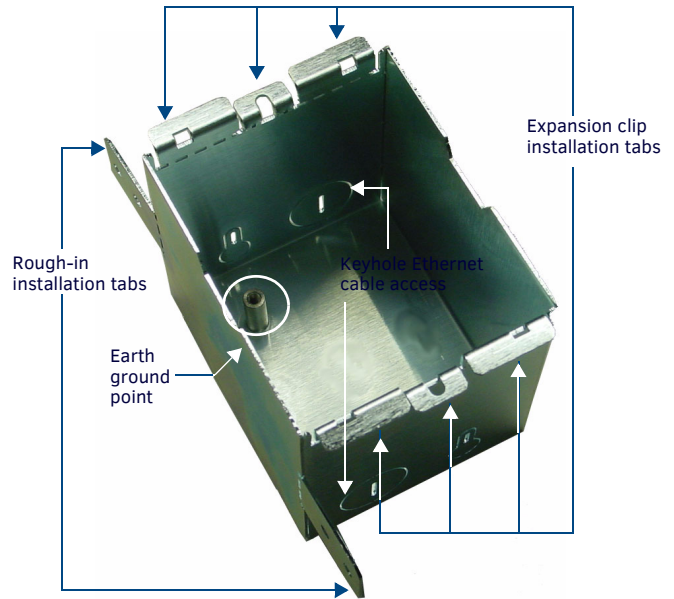

FIG. 6 CB-MET-ECOM
3. Run the Ethernet cable and an Earth ground wire into the Rough-In Box. Only use the keyholes indicated in FIG. 6.
4. Place the lug of the ground wire on the device and the Earth ground wire around the provided screw and connect them both to the point shown in FIG. 6.